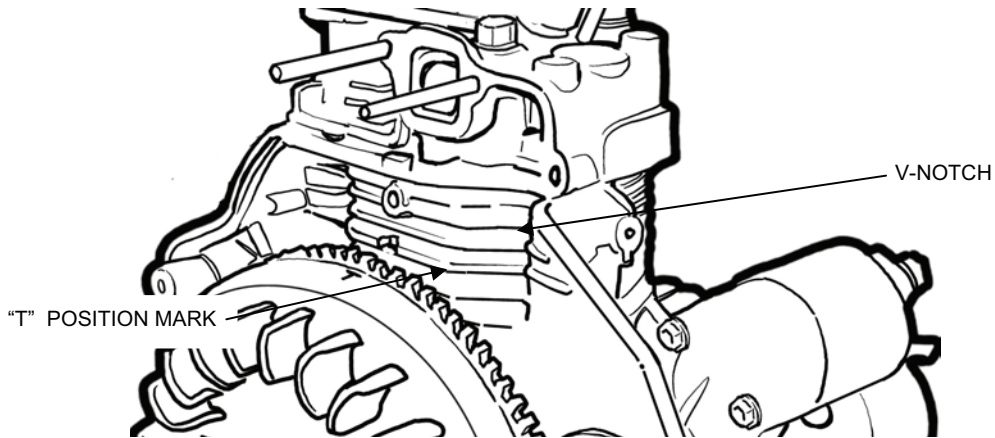
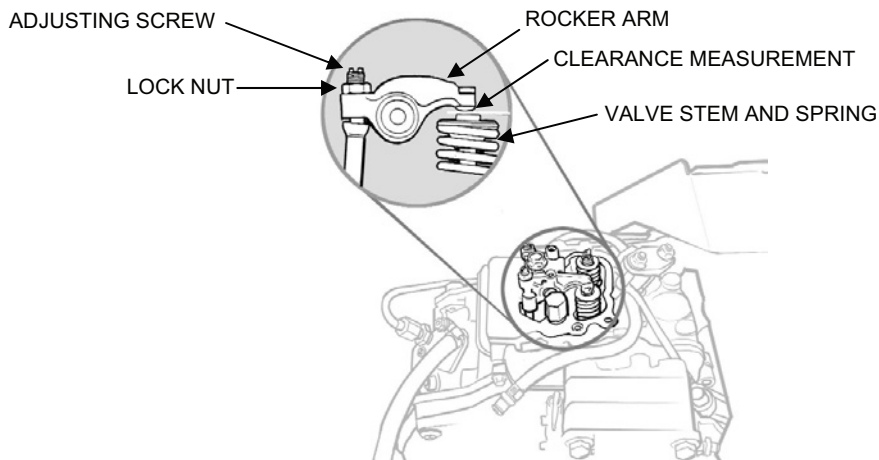

Figure 20. Setting the Crankshaft to Top Dead Center.
Figure 21. Intake/Exhaust Valve Clearance Adjustment.
Check/adjust the intake and exhaust valve clearances as follows (see Figure 20 and Figure 21):
1. Turn the flywheel by hand in the direction of least resistance until the "T" position mark on the flywheel lines up with the V notch on the cylinder body fin (see Figure 20). This places the engine crankshaft at T.D.C. (Top Dead Center). In this position, one of the valve rocker arms will have pressure on it and the other will not.